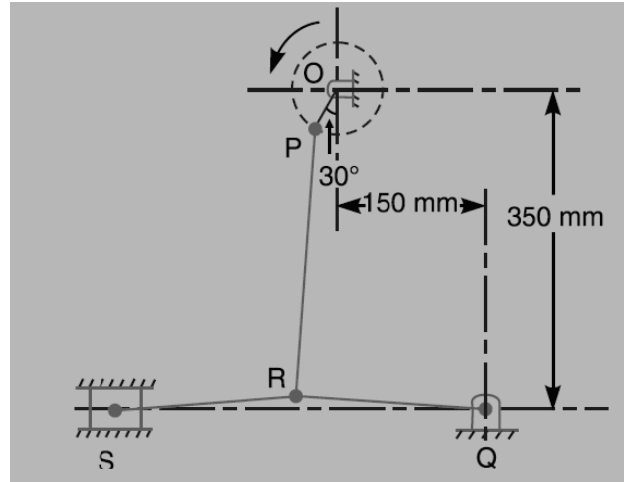

Fig.4
- (a) A toggle press mechanism, as shown in Fig.4, has the dimensions of various links as follows :  $OP = 50$  mm ;  $RQ = RS = 200$  mm ;  $PR = 300$  mm. Find the velocity of  $S$  when the crank  $OP$  rotates at 60 r.p.m. in the anticlockwise direction. If the torque on  $P$  is 115 N-m, what pressure will be exerted at  $S$  when the overall efficiency is 60 percent.